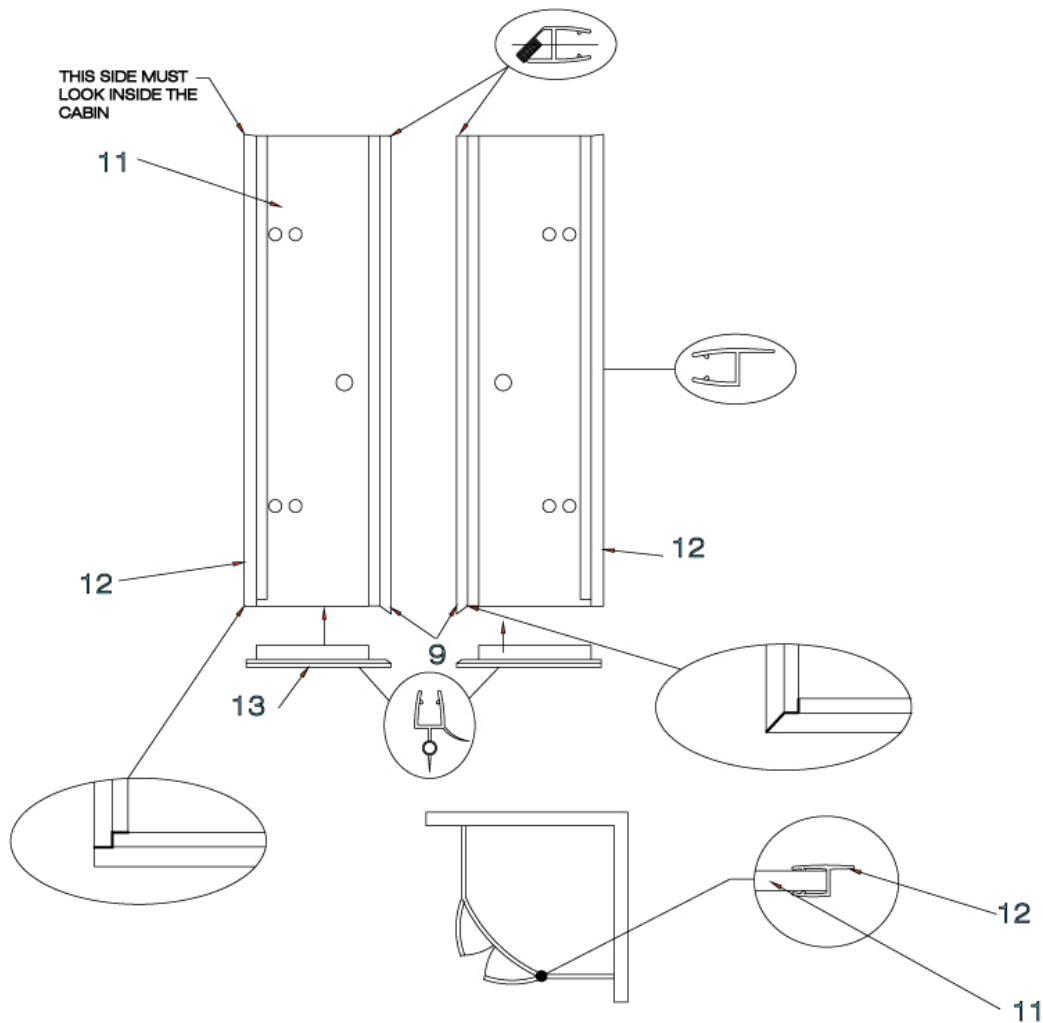

FIG.7 SEAL STRIP INSTALLATION
1. Clean all glass panel edges receiving seal strips with rubbing alcohol. [SEE FIG.7]
5. Verify that the lip from the door side seal strips and the door bottom seal strips face toward the inside of the shower cabin. [SEE FIG.7]